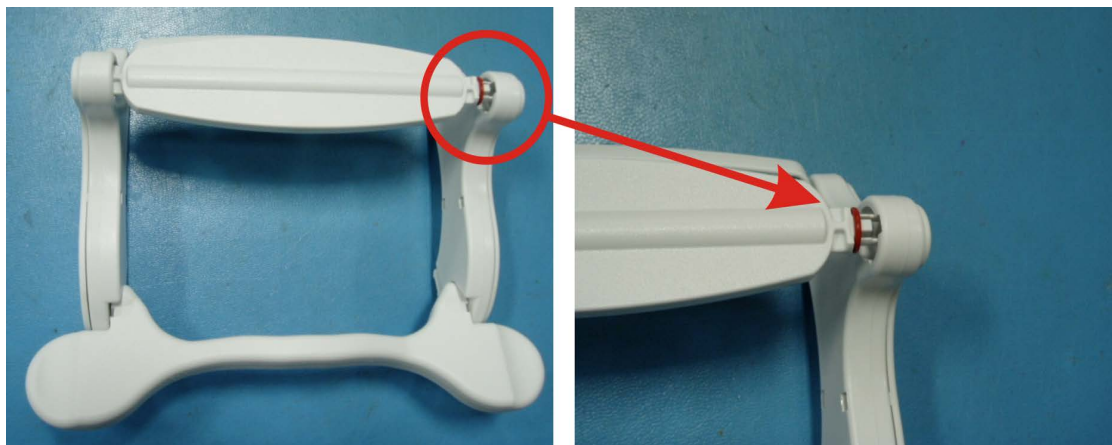
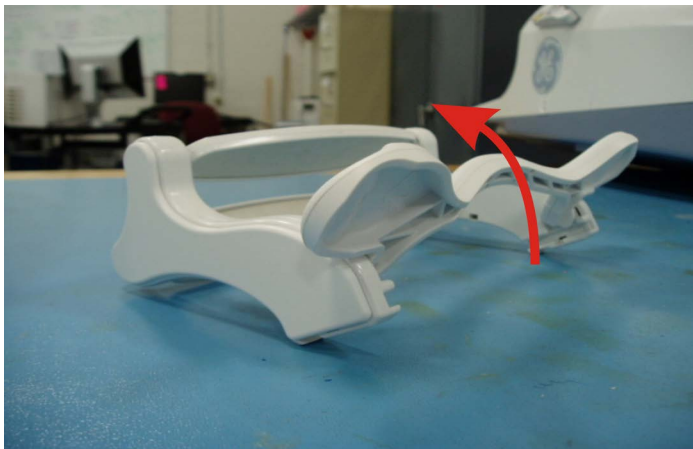

Figure 3-1: Example of the top mirror pulled out from the socket
Figure 3-9: Locking bar in the up position
NOTE: If the mirror assembly has come apart or the snap features on the top rails are broken, contact your GE service representative for replacement. A top mirror that gets pulled out of a socket is an example of a failure that may occur. See figure 3-1 for an example. If this occurs, please contact your GE service representative for replacement or repair.
1. If the mirror has come off of the anterior unit and the top rails (shown in figure 3-1) are still attached to the mirror, push the locking bar on the mirror into the up position (shown in figure 3-9). This will release the top rails from the mirror so that the mirror can be re-installed onto the anterior unit as described in the following steps.
6. Push the locking bar of the mirror into the up position. See figure 3-9.